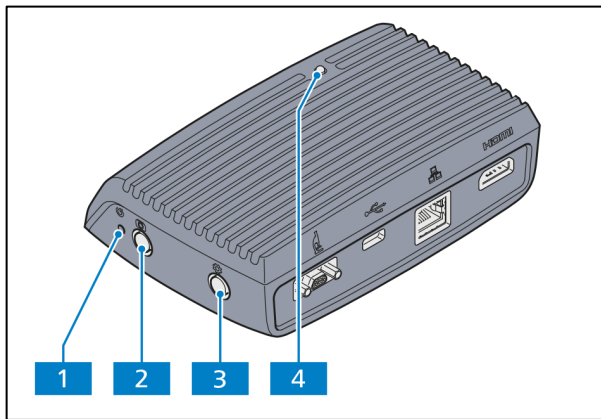
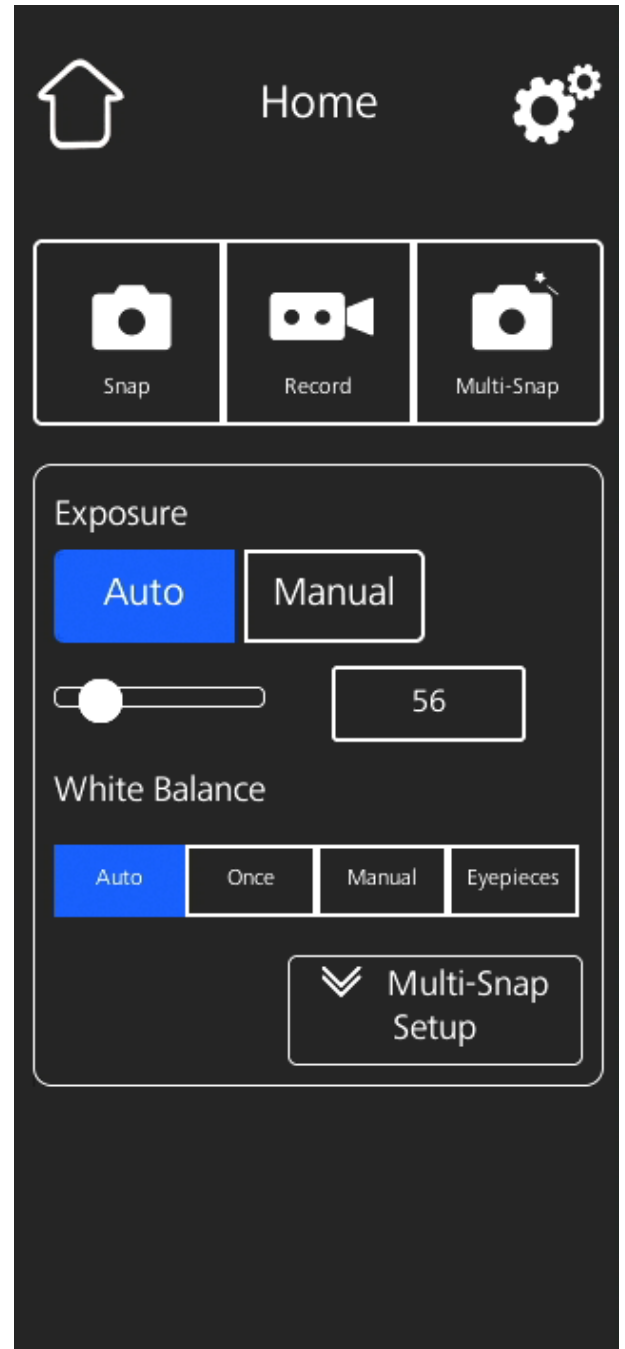

Fig. 2-19 Camera operator panel (right side)
Fig. 2-20 OSD menu, Home
The camera operator panel contains the following elements (see Fig. 2-19):
- Press the **OSD menu** button (Fig. 2-19/4) to open the menu (see Fig. 2-20).